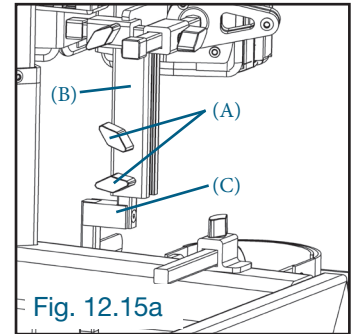

Fig. 12.15a
12.15 FOOTREST ADJUSTMENT – ABDUCTION MODEL Height Adjustment of the footplate (Fig. 12.15a)